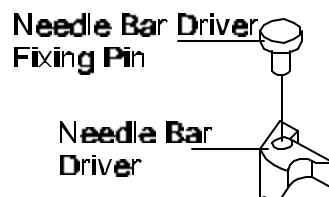

Figure 5
13. **Remove** Needle Bar Driver and Needle Bar Driver Fixing pin from Needle Bar Driver Fixing Base. See *Figure 5*.